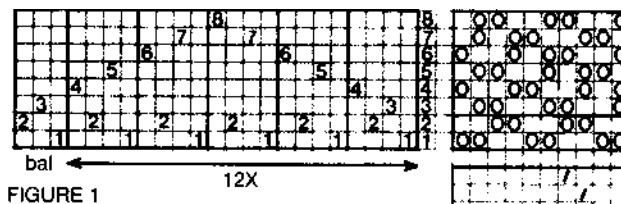

FIGURE 1
**Weave structure:** 8-shaft, 10 treadle plaited twill (Fig. 1). Note that the weave structure for a 4-shaft loom should be herring-bone twill (Fig. 2).
**Threading, tie-up and treadling:** See Fig. 1 or Fig. 2.